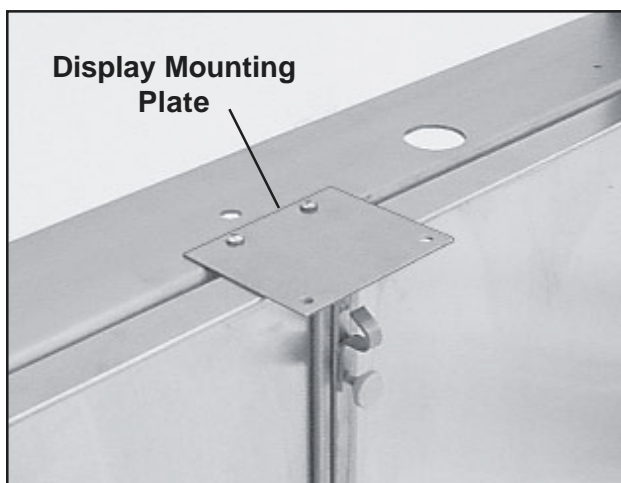

Figure 14. Mounting Plate on Sliding Carriage Cross Member
1. With a Phillips screwdriver and a 3/8 in. wrench, mount the display mounting plate to the top crossmember of the sliding carriage with two 10-24 x .5" screws and locknuts (Figure 14).